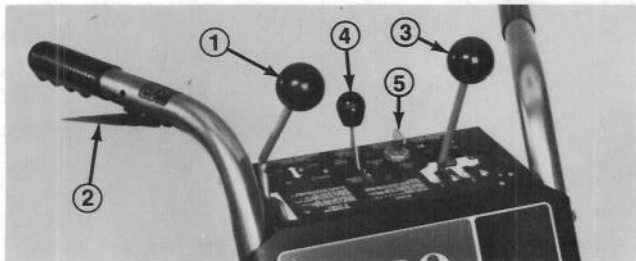

Figure 15
Auger Drive Control (Fig. 15) – Control has two positions: ENGAGE and DISENGAGE. To engage auger and impeller, push control forward until it stops in an over center position. To disengage auger and impeller, pull control backward.
Interlock Lever (Fig. 15) – Interlock lever must be compressed against right handle grip when auger drive or wheel drive control is engaged. The engine will shut off if lever is released when auger drive or wheel drive control is engaged. This is a safety feature that reminds the user to disengage auger drive and wheel drive controls before leaving operator's position behind the handles.
Wheel Drive Control (Fig. 15) – The control has seven positions: N—neutral (2), R1 and R2—reverse, 1, 2, and 3. To change speeds, move gear shift to position desired. Control must be held in R—reverse—when backing and when it is released, gear shift automatically returns to neutral. Use positions 1, 2, and 3 depending on snow conditions. Keep interlock lever compressed when shifting.
Throttle (Fig. 15) – Moving the throttle forward increases engine speed. Use only enough engine speed to throw snow to the place desired.
Ignition Switch (Fig. 15) – Switch has two positions: ON and OFF. Rotate key to ON before starting engine with the recoil starter. To stop engine, rotate key to OFF.